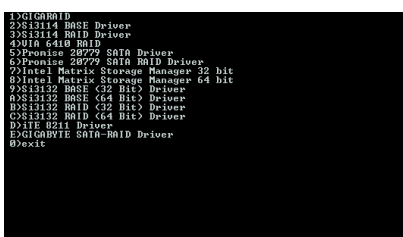
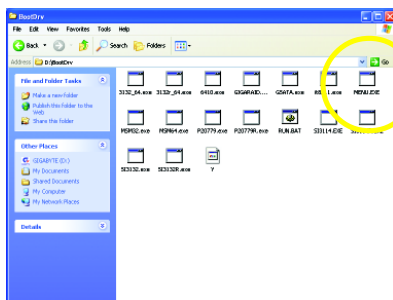

Figure 16
Figure 17
Step 2: When the controller menu (Figure 16) appears, remove the startup disk and insert the blank formatted disk. Select the controller driver by pressing the corresponding letter from the menu. For example, from the menu in Figure 16, press E to select **(E) GIGABYTE SATA-RAID Driver**. Your system will then automatically zip and transfer this driver file to the floppy disk. Press 0 to exit when finished.
Use an alternative system and insert the GIGABYTE motherboard driver CD-ROM. From the CD-ROM drive folder, double click the **MENU.exe** file in the **BootDrv** folder (Figure 17). A command prompt window will open similar to that in Figure 16.